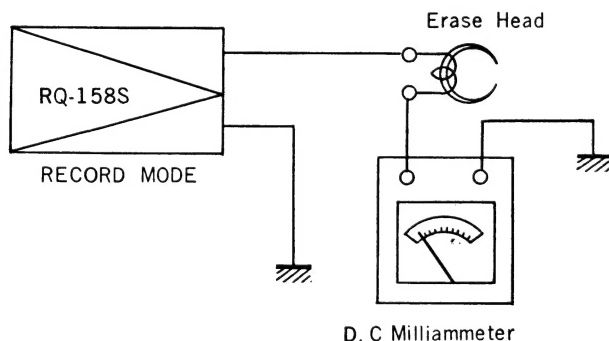

Fig. 5
Measuring Circuit: Refer to Fig. 5
1. Disconnect wiring from ground side of erase head and insert DC Milliammeter between wire and terminal as shown in Fig. 5.